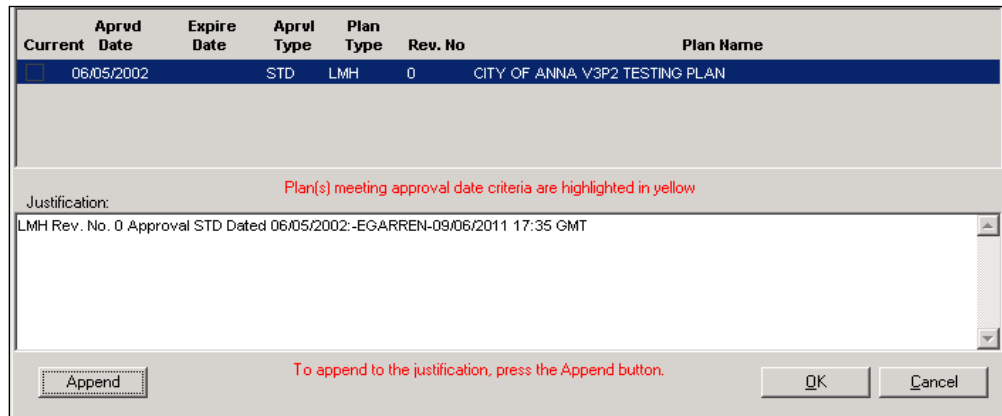

Figure 6-16: MT Subrecipient Mitigation Plan Comments
- e. Click the OK button. The comments are now displayed on the MT Subrecipient Mitigation Plan screen. The system appends your User Name, the date and time to the end of the text. (Figure 6-16).